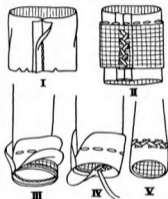

FIGURE 161
*Tailored Cuffs* (Figure 161). — The tailored cuff is used on coats and suits and it is therefore necessary that it have an inner lining of muslin to give it body. Measure the distance around the bottom of the sleeve, plus  $\frac{1}{2}$  inch for seam allowance. Fold two thicknesses of muslin together (I) and with a ruler or tape establish the distance for the length around the cuff and the desired width. Shape the top of the cuff to correspond to the collar in design and cut the muslin. Fold the fabric with corresponding sides together and place the muslin pattern that has been adjusted to the sleeve upon the fabric. Cut the backs of the cuffs like the muslin pattern, but cut the tops two inches longer at the bottom. Place the muslin lining on the wrong side of the back cuff (II).